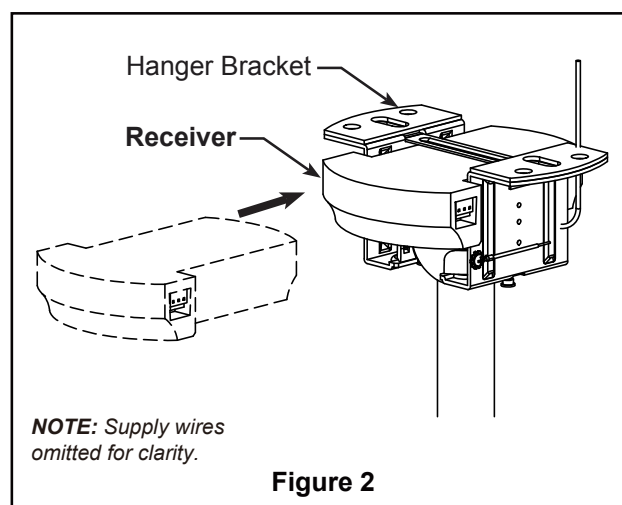

Figure 2
1. Slide the receiver into the hanger bracket with the flat side up towards the ceiling. as shown in. (Figure 2)